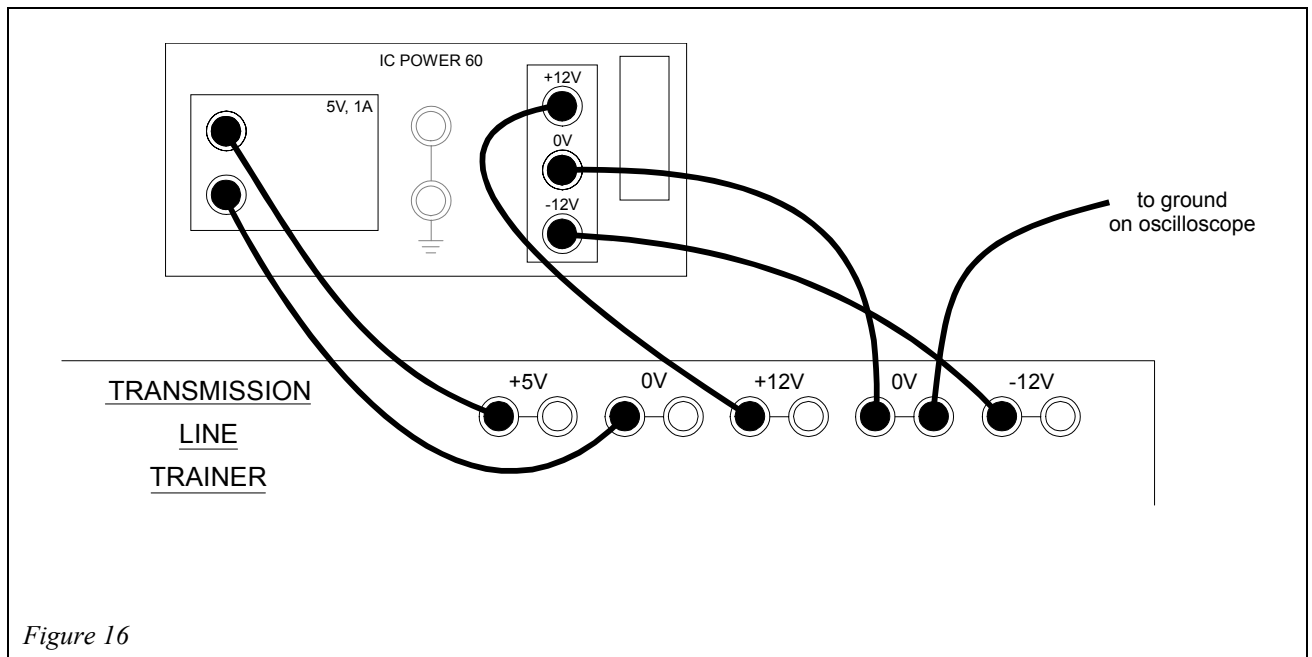

Figure 16
- Connect the power supply to the Transmission Line Trainer in accordance with the interconnection diagram (Figure 16).